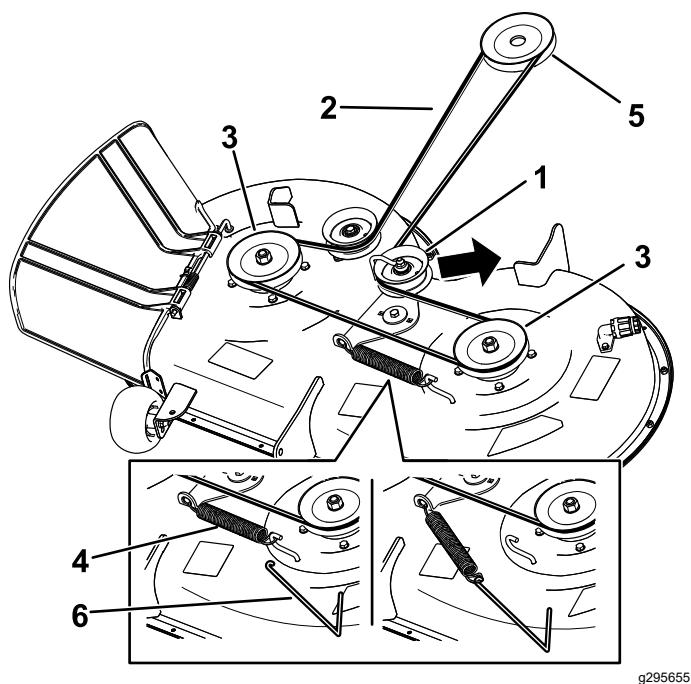

Figure 57
- 2. Screw (3)
- 6. Using a spring-removal tool (Toro Part No. 92-5771), remove the idler spring from the deck hook to remove tension on the idler pulley, and roll the belt off the pulleys (Figure 57).
7. Route the new belt around the engine pulley and mower pulleys (Figure 57).
8. Using a spring-removal tool (Toro Part No. 92-5771), install the idler spring over the deck hook and place tension on the idler pulley and the mower belt (Figure 57).